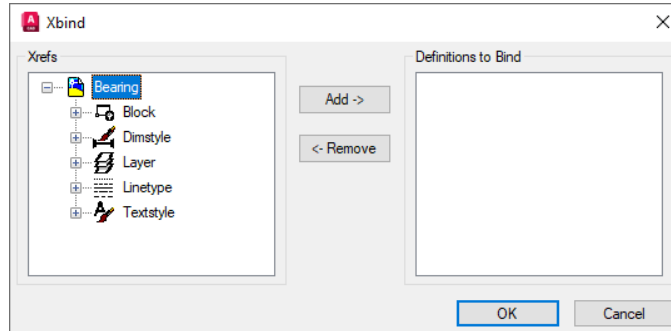

Figure 2-28 The named objects in the **Xbind** dialog box
5. Now, invoke the **Xbind** tool; the **Xbind** dialog box is displayed. This dialog box has two areas with list boxes. They are **Xrefs** and **Definitions to Bind**. If you want to bind the blocks defined in the xref drawing Bearing, first click on the plus sign adjacent to the xref Bearing; the icons for the named objects in the drawing are displayed in a tree view, refer to Figure 2-28. Click on the plus sign next to the Block icon. AutoCAD lists the blocks defined in the xref drawing (Bearing). Select the block Bearing|SIDE and then choose the **Add** button. The block name will be added to the **Definitions to Bind** list box. Choose the **OK** button to exit the dialog box. AutoCAD will bind the block with the current drawing and a message is displayed at the command prompt: **1 Block(s) bound**. The name of the block will change to Bearing\$0\$SIDE. You can invoke the **Block Definition** dialog box by choosing the **Create Block** tool in the **Block Definition** panel and check the **Name** drop-down list to see if the block with the name Bearing\$0\$SIDE has been added to the drawing. If you